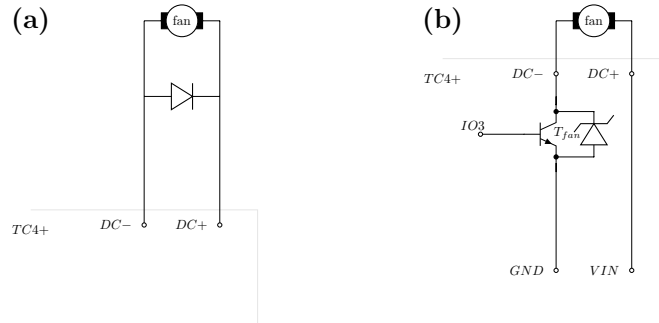

Figure 4: Two potential protection circuits for brushed DC motors. Left: A flyback diode across the motor. Right: A Zener diode across the MOSFET.
- Simplest approach: A flyback diode is a diode put across the motor's terminals, allowing current to flow from the negative to the positive lead. This gives the motor a path to discharge. Typically, a 1N4001 diode would be suitable for this purpose. This could be soldered directly onto the motor's leads; or screwed into the DC+- header. This is shown in figure 4 (a).
- Alternatively, a suitable Zener diode could be soldered across the MOSFET. Some revisions of the TC4+ board provide DO214AA-sized SMD solder pads for this purpose labelled D3, at the south east corner of the PCB. Alternatively a through-hole Zener diode could be screwed into the DC- and GND terminals. This is shown in figure 4 (b). Note that the Zener diode must be tuned to the parameters of the particular motor. A full discussion of this is beyond the scope of this document, however.